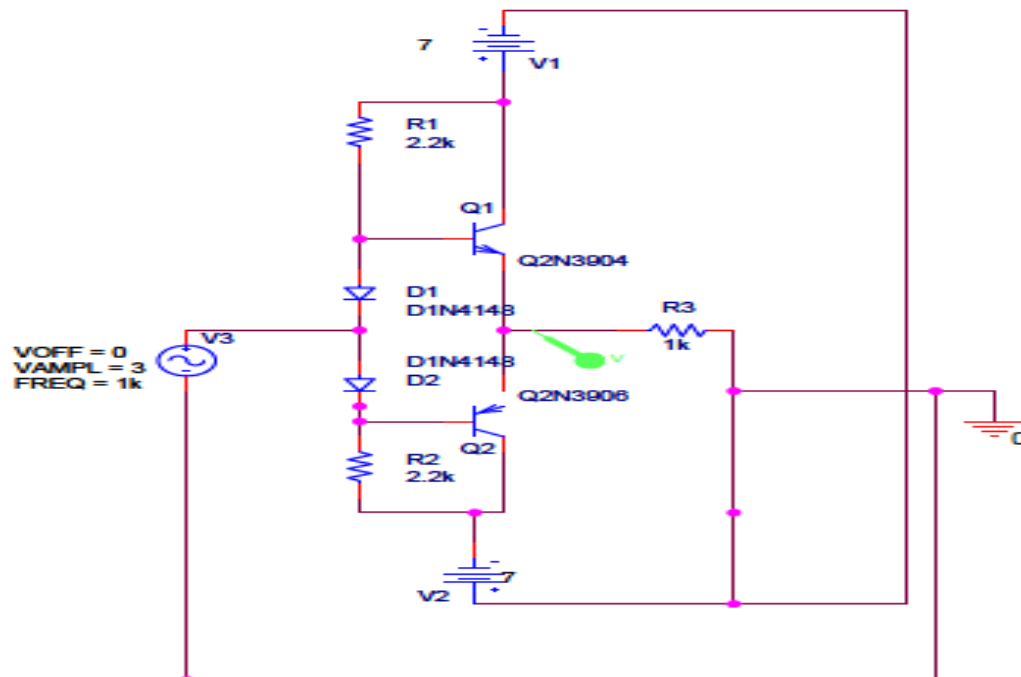

Fig. 6: Class B push-pull Power amplifier circuit
1. Wire the circuit shown in figure 6(a).